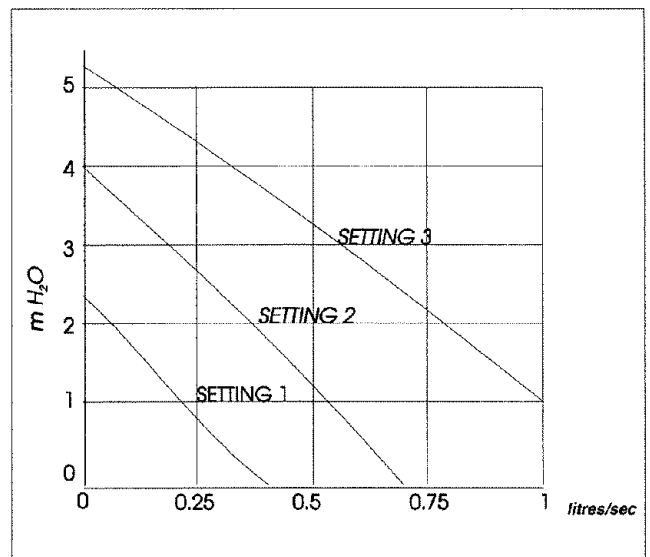

Figure 2.3 Performance Characteristics of Grundfos UPS 15-50 Pump
- a) The performance of the system pump and the pressure losses through the Systemate III primary coil circuit are shown in Figures 2.3, 2.3a and 2.4 respectively. The net pump head available for heating circuit can be determined from these figures and this net pump head should be used for sizing the heating circuit pipework.
- a) The boiler/system pump should be set at the speed at which the temperature difference across the boiler is not greater than 11°C i.e. the nominal design parameters. The performance of the pump is shown in Figures 2.3 and 2.3a.